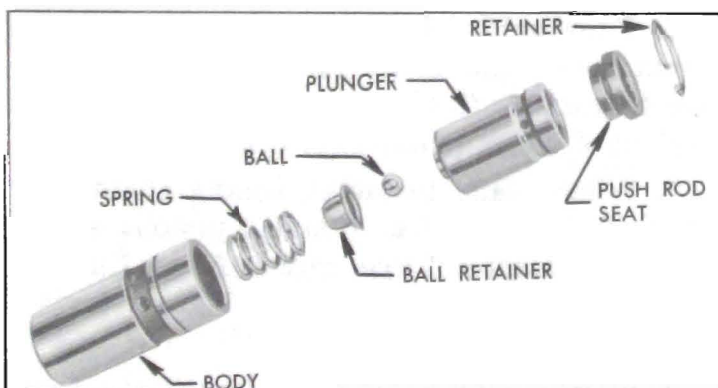

Figure 2-25—Hydraulic Valve Lifter Parts
2. Hold plunger in vertical position with feed hole up, then rinse and install the check ball, ball retainer, spring, and body over the plunger. See parts in figure 2-25.